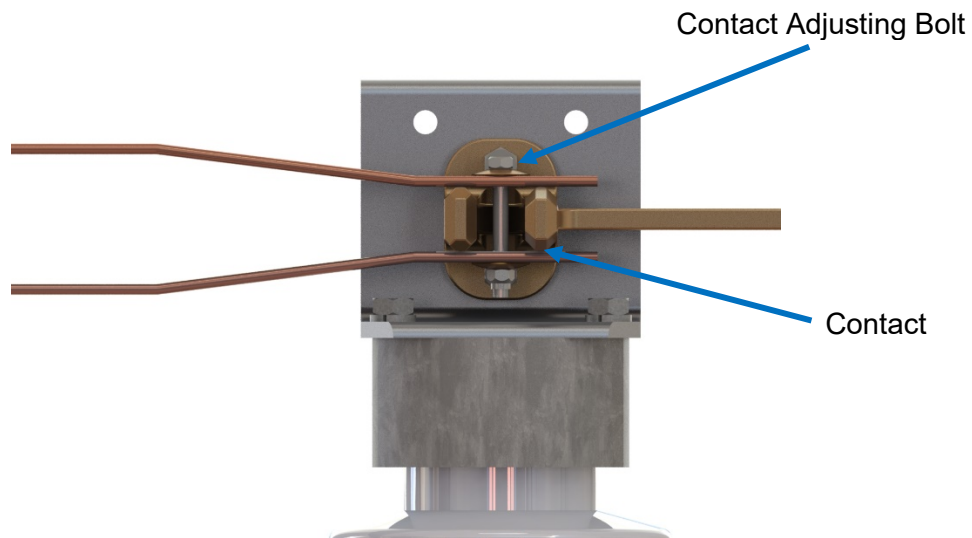

Figure 6: Contact End Shown Fully Closed
- To increase the contact pressure, tighten the contact adjusting bolt (Figure 6). Be cautious about applying too much pressure as it may cause galling of the silver contact surfaces.
- The blade tip must come down into the jaw in its center, without dragging on either side as shown in Figure 6. Use the jacking bolts that support the jaw insulator to tilt the insulator sideways, if necessary, to ensure this condition.